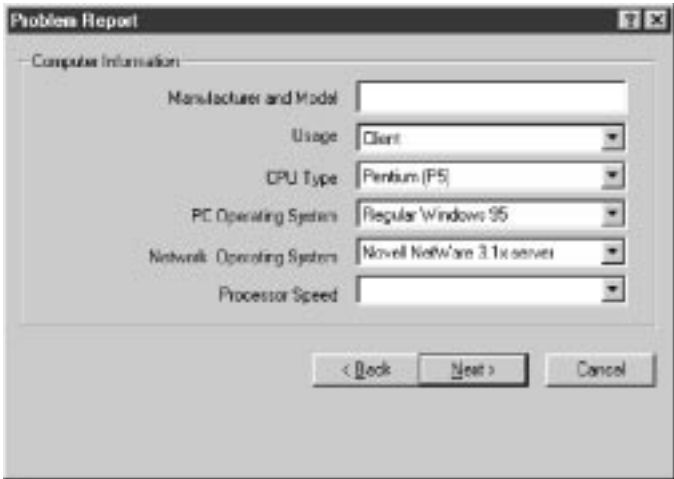

Figure 3-8 Computer Information Screen
- 4 Click *Next* to display the Computer information screen, shown in Figure 3-8.